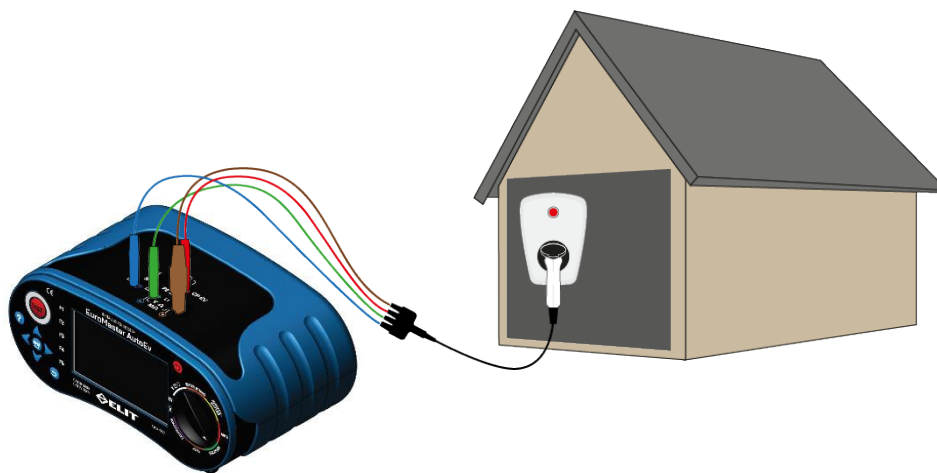

Figure 6.10.9 Adaptor/ EVSE connection.
- III. Check Figure 6.10.9 and Input terminal Table 6.10.1 and connect correctly.